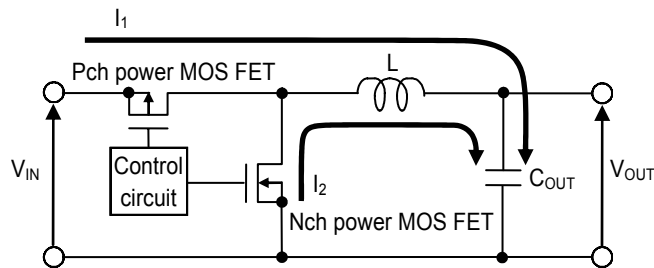
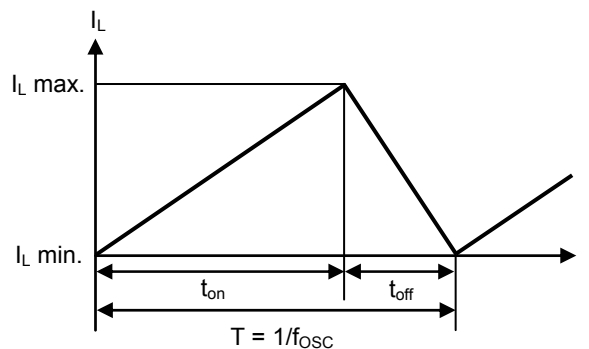

Figure 7 Basic Circuit Drawing of Step-down Switching Regulator
Figure 8 Continuous Mode (Current Cycle of Inductor Current (I_L))
The S-8550/8551 Series is a step-down synchronous rectification switching regulator based on constant PWM control. **Figure 7** shows the basic circuit diagram.
When the Pch power MOS FET is turned on, current I_1 flows in the direction shown by the arrow in **Figure 7**, and energy is stored in the inductor (L). When the output capacitor (C_{OUT}) is charged, supply of the output current (I_{OUT}) is started at the same time. The inductor current (I_L) gradually increases in proportion to the ON time (t_{ON}) of the Pch power MOS FET as shown in **Figure 8** (changes from I_L min. to I_L max.). When the Pch power MOS FET is turned off, the Nch power MOS FET is turned on and I_L tries to hold I_L max. Consequently, current I_2 flows in the direction shown by the arrow in **Figure 7**. As a result, I_L gradually decreases and reaches I_L min. when the OFF time (t_{OFF}) has elapsed. When t_{OFF} has elapsed, the Nch power MOS FET is turned off and the next cycle is entered. The above sequence is repeated.